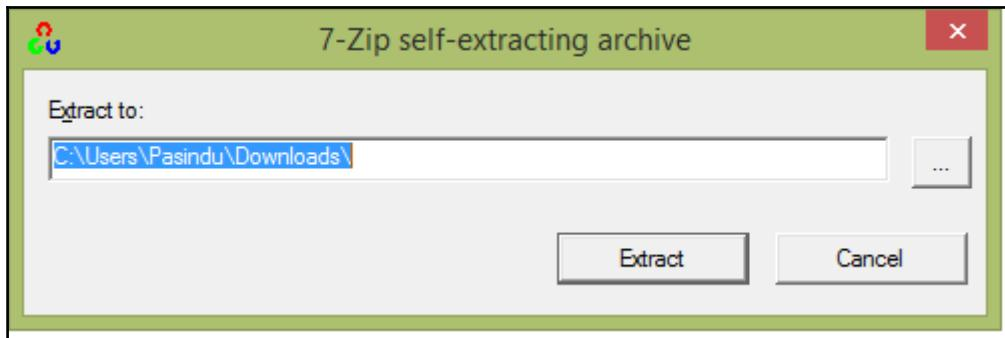

Figure 7-4: Self-extracting archive
2. Run the downloaded executable file named `opencv-3.2.0-vc14.exe` (or similar). The file will open with a self-extractor (Figure 7-4). Browse to the location that you want to extract the files to, and click the **Extract** button: